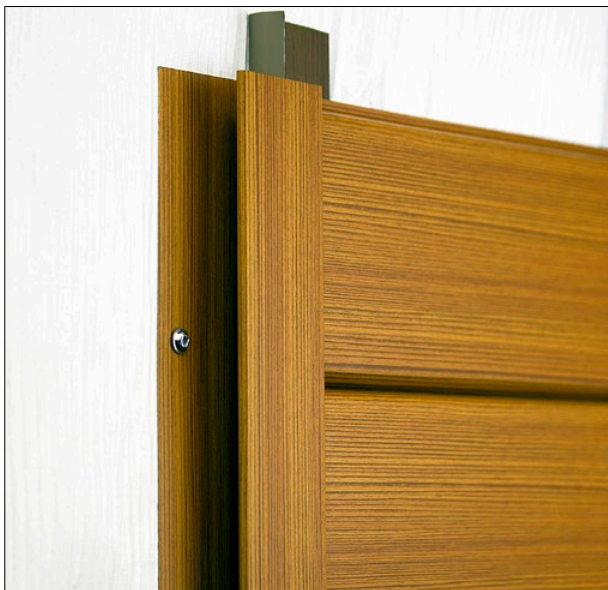

Fig.44
Step 3: Set the Joiner J (#708) in place and fasten (Fig.44).